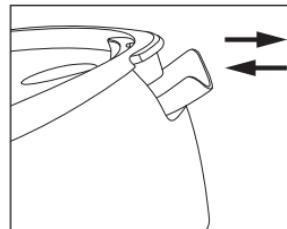

Abb. 3
- each time you press the steam supply button (8) «», the pump is switched on, the operation of which is accompanied by a characteristic sound;
- when the water in the tank (2) runs out, the pump sound will be much louder, turn off the device by pressing the on/off button (12), unplug the power cord (13), open the lid (3) (Fig. 3) pour water into the tank (2), close the lid (3) (Fig. 3), turn on the device and continue working;
- make sure that the steam pipe (11) doesn't bend and twist during the operation.
- During breaks and after operation place the iron on the steam station body (1) in the iron installation
1. Make sure that the power plug (10) is not inserted into the mains socket.
2. Grasp the lid (3) and open the filling hole of the water tank (2) (Fig. 3) fill the tank (2) to the maximum water level «MAX».
- Note:** do not pour vinegar or any other descaling agents into the tank (2).
3. Set the temperature control knob (9) to the position.
4. Connect the power plug (13) into a mains socket, press the on/off button (12), the iron will switch on and the light indicator (7) will flash. When the iron soleplate (6) reaches the set temperature, the indicator (7) will glow constantly.
5. Place the iron horizontally over the sink, press and hold the steam supply button (8) «», and the sound of the running pump will be heard.
6. After 45-60 seconds, release the steam supply button «» (8), set the temperature controller (9) to the «\*\*\*» position and wait for the bottom of the iron to heat up (6). Repeat the cleaning process described in paragraph «5».
7. After 45-60 seconds, release the steam supply button «» (8), set the temperature controller (9) to the «Max» position and wait for the bottom of the iron to heat up (6). Repeat the cleaning process described in paragraph «5».
8. Turn off the device by pressing the on/off button (12) and unplug the power cord (13) from the electrical outlet, wait for the iron to cool down.